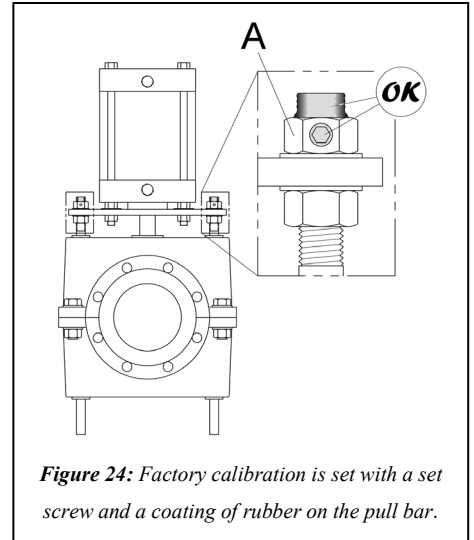

Figure 24: Factory calibration is set with a set screw and a coating of rubber on the pull bar.
The RV Valve is factory calibrated to close with the amount of crush necessary to seal against the applicable line pressure. After calibration, a set screw is inserted into each of the A-nuts and a coating of rubber is applied to the pull bar threads above the A-nut (Fig. 24).
- it appears the A-nuts have been disturbed (for example: missing set screw and/or missing blue rubber coating). See Fig. 24.